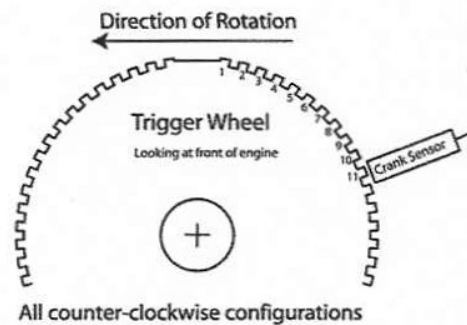

Figure 2: Trigger Wheel Timing
- ii. Install the EIS Controller where temperatures will not exceed 150°F. Because of this, Electroair recommends that the EIS Controller be mounted on the cockpit side of the firewall with the shortest practical distance from the coil pack for the wiring harness runs. Dimensions for the controller are shown in figure 2: